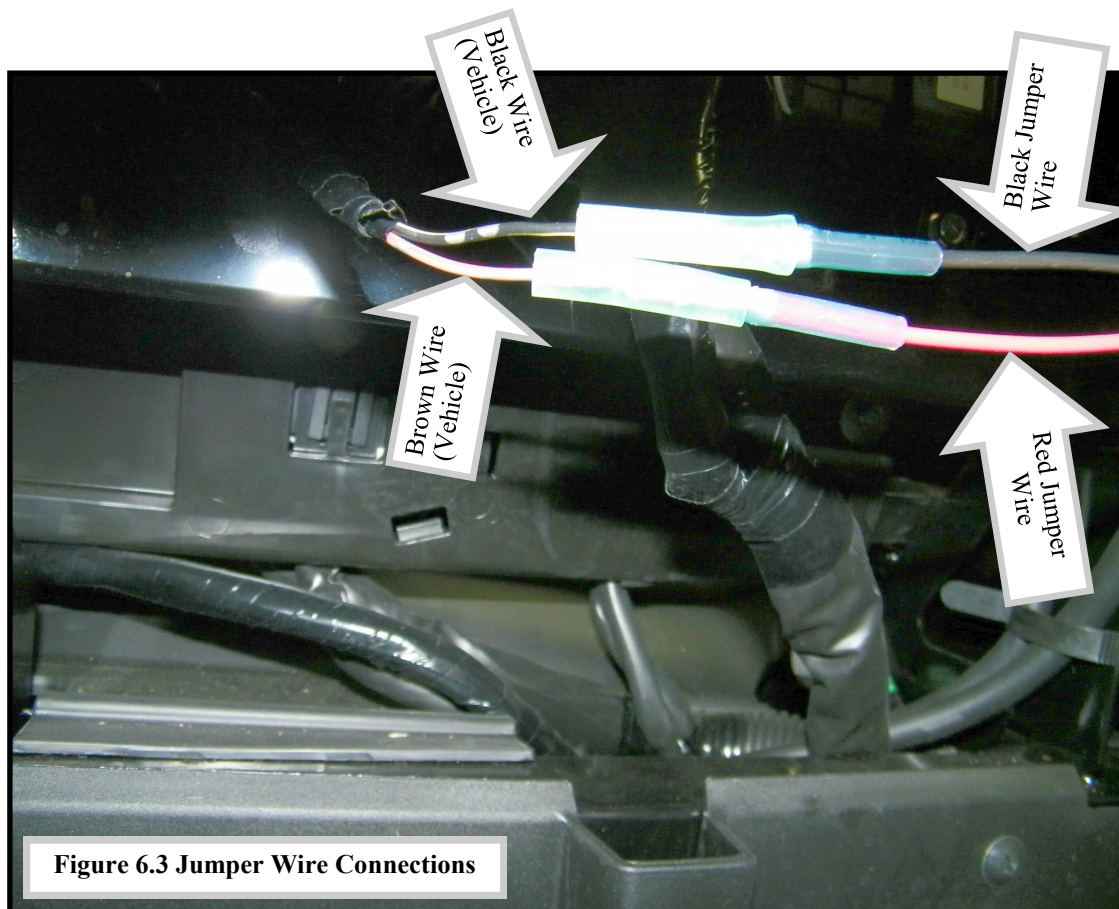

Figure 6.3 Jumper Wire Connections
- 6.3 Connect the other end of the jumper wires to the accessory wires of the vehicle located under the upper dash board. Connect black to black, and red to brown via the bullet terminals. (Figure 6.3)